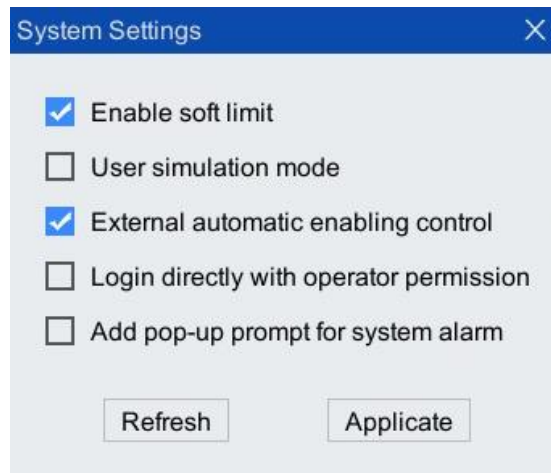

Figure 8-16 "System Settings" dialog box
Step1. On the main interface of the teach pendant, click "System > System Configuration > "System Settings" to enter the "System Settings" interface as shown in Figure 8-16. Please refer to the table for the description of each interface Table 8-2.